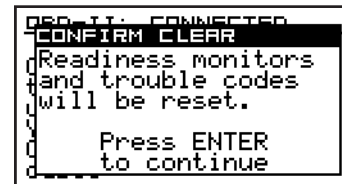

Fig.13
4. Read the confirm screen (Fig.13) and press ENTER to clear the codes.